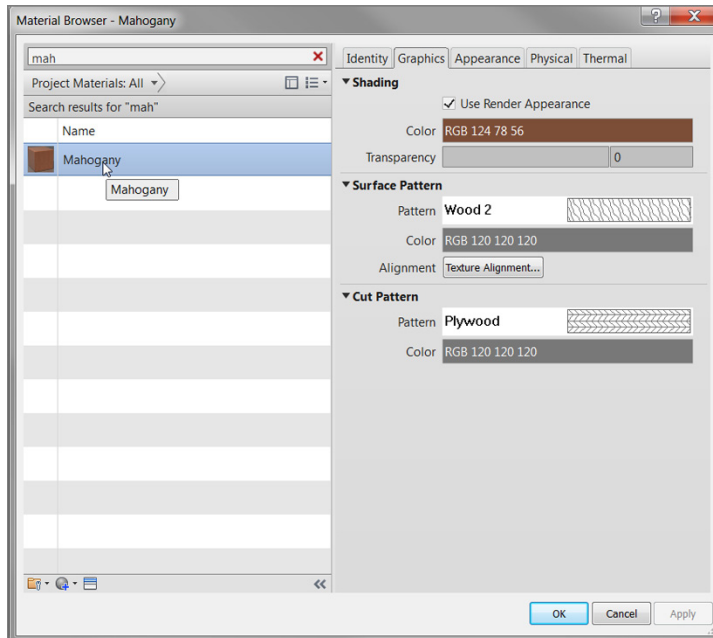

FIGURE 9.31: Adding a new material to the project
9. In the Material Browser, type mahogany in the search box, as shown in Figure 9.31.